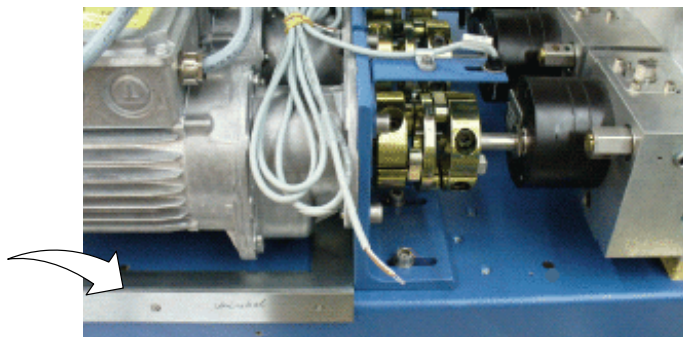

Fig. 7-24
15. Align the motor bracket with the aid of an angle on the melter chassis; refer to Figure 7-24.